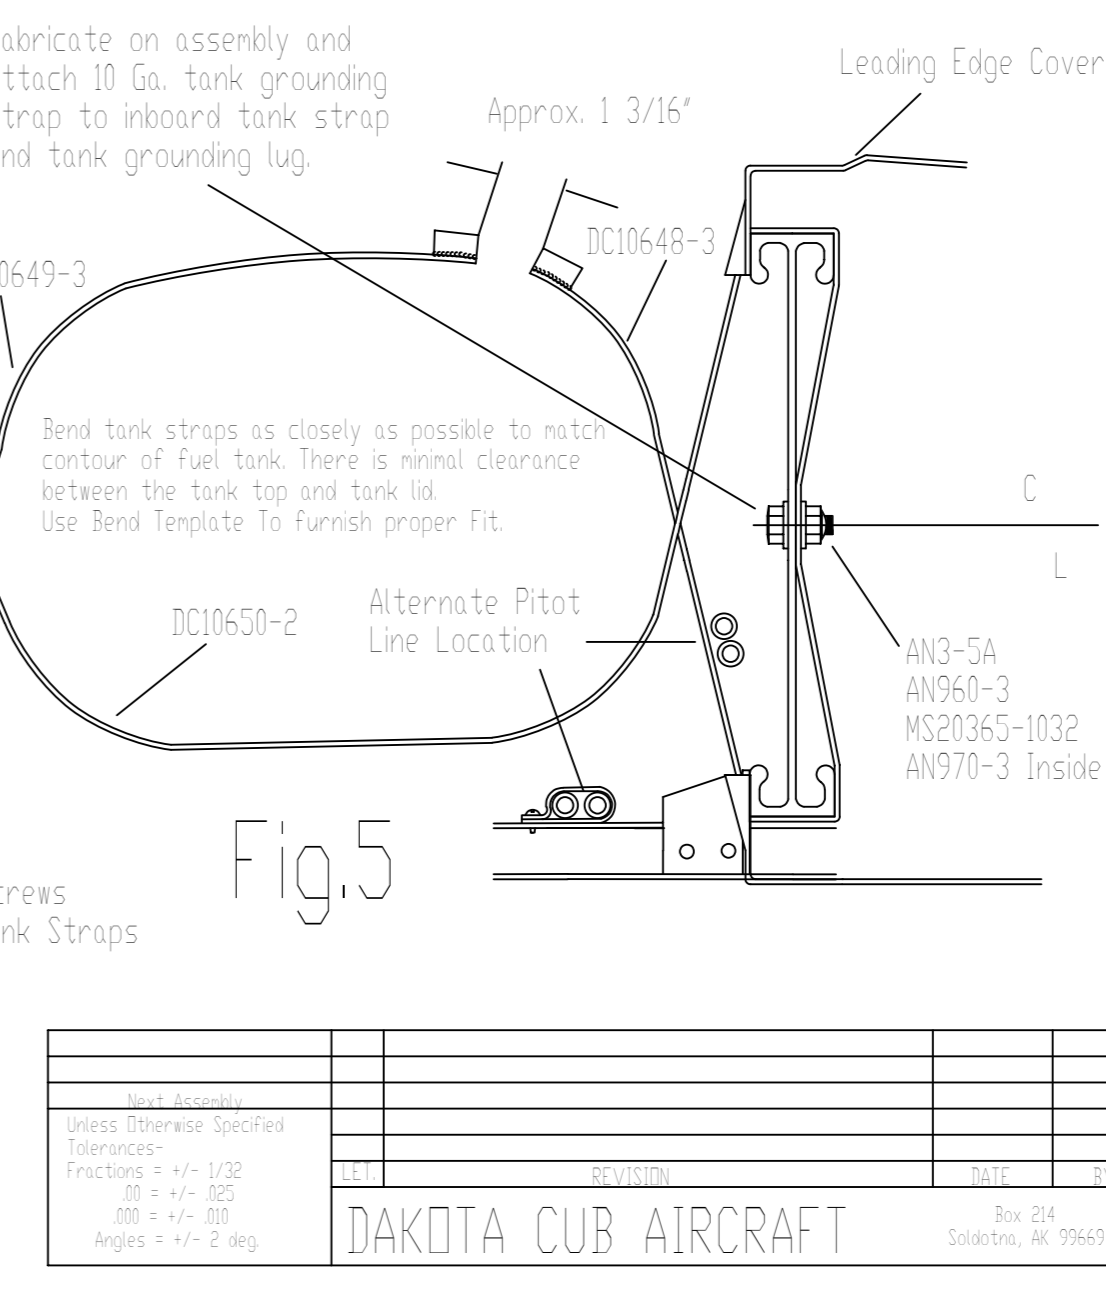

Fig.6
- 5- Install new drag strut DC14222 at 42 11/16" dimension (from reference zero) shown in Fig.6. A double wire pull is utilized at the front spar, and a single wire pull (connecting tab facing outboard) at rear spar. Install drag wires DC14941-9S into bay 2.
- 6- Layout spar trammel points above drag struts 1-2-3, measuring equal distances from spar end "zero" point as shown in Fig.6. Trammel bay 2. Install tank bay drag tube DC10641 into bay 1, and trammel. Only one end of the drag tube has been pre-drilled. It is important to accurately trammel the bay before marking and drilling a #11 attachment hole in assembly.